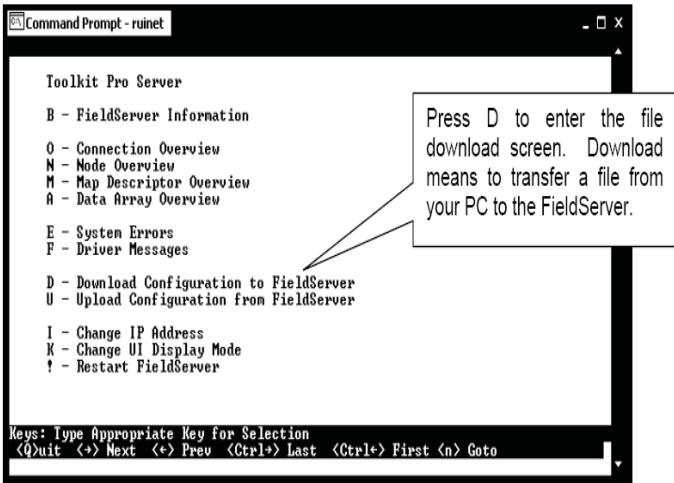

Figure 15: Download new Config.csv file
11.) From the RUINET Main Menu, type <D> to Download the new config.csv file to the FieldServer (Figure 15).